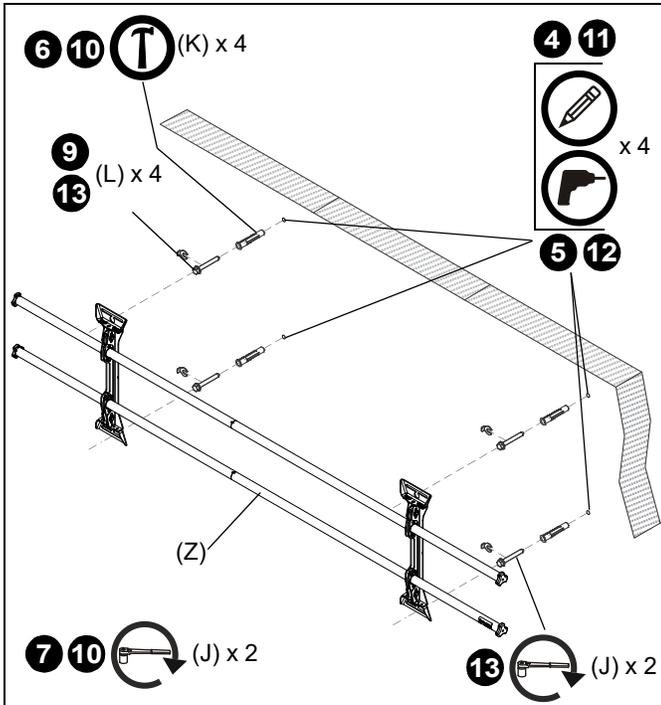

Figure 6
2. Line up the notches on mount with center of screen marking to determine vertical center. (See Figure 6)
3. Measure up 8" (203.2mm) from the center point to mark location of the upper mounting slots. (See Figure 6)
4. Using a level, mark the wall through both upper mounting slots. (See Figure 6)
6. Install an anchor (K) into each pilot hole using a hammer, making sure that the anchor is flush with the wall.
7. Partially install two 5/16 x 2-1/2" flanged lag bolts (J) into pilot holes but do not tighten to wall.
8. Hang mount (Z), aligning upper mounting slots over lag bolts and adjust side-to-side for proper location.
9. Place one slotted washer (L) over each flanged lag bolt. (See Figure 6)
10. Tighten lag bolts to secure mount (Z) to wall at upper mounting slots.
11. Mark the attachment points for the lower mounting slots, making sure the attachment points are located on the studs. (See Figure 6)
12. Drill 3/8" x 3-1/2" (9.5mm x 88.9mm) pilot holes at markings for lower mounting holes. (See Figure 6)
13. Use two 5/16 x 2-1/2" flanged lag bolts (J) and two 5/16" slotted washers (L) to attach the mount to the wall through the lower mounting holes. (See Figure 6)